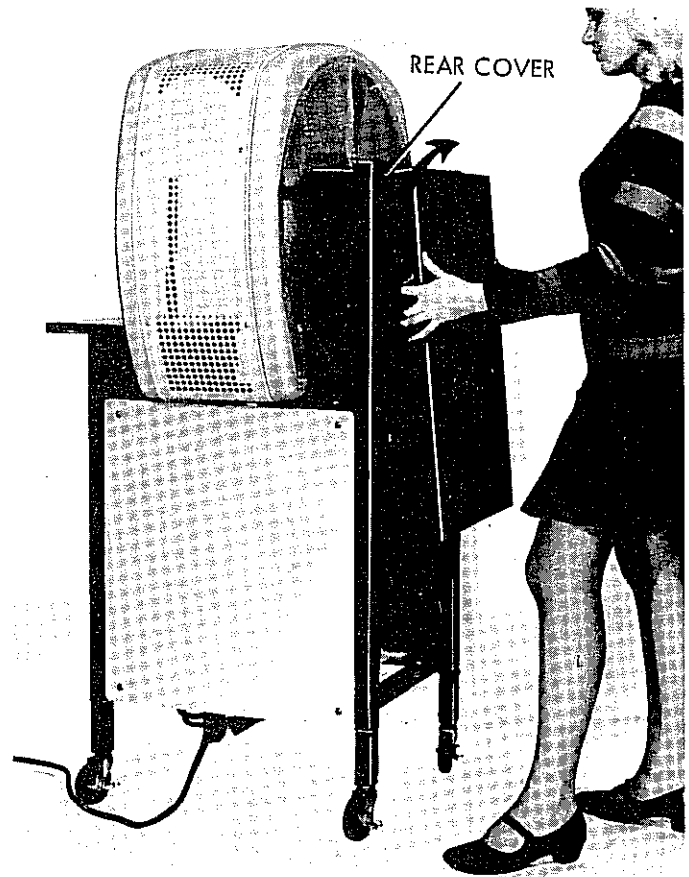

Figure 11. Removing Rear Cover
5. Grasp sides of rear cover. Simultaneously raise and pull back removing rear cover from tying machine. Set cover to one side (figure 11).